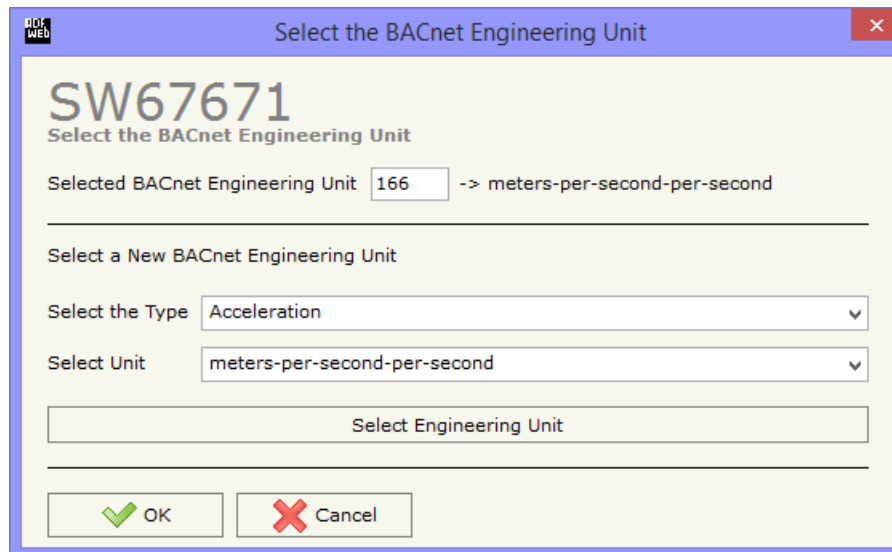

Figure 6: "Select the BACnet Engineering Unit" window
- In the field "**Eng. Unit**", with double click the window "*Select the BACnet Engineering Unit*" appears (Fig. 6);